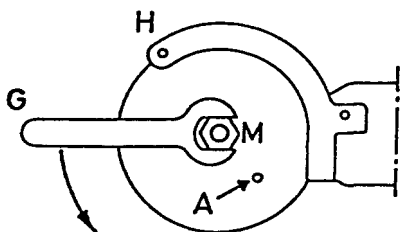

Figure 3: Loosening the saw blade
- Insert the locking pin into the bore of the saw blade and turn with the saw blade against the safety hood (H). Place an open-jaw wrench (G) onto hex. clamping nut (M) and open in the direction shown (see Fig. 3).